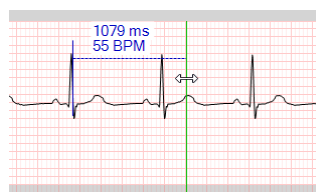

Figure 389 – Editing a defined Marker
2. Press and hold down the left mouse button and move the cursor to a new location (see Figure 389). The measurement limit(s) will move along with the cursor.